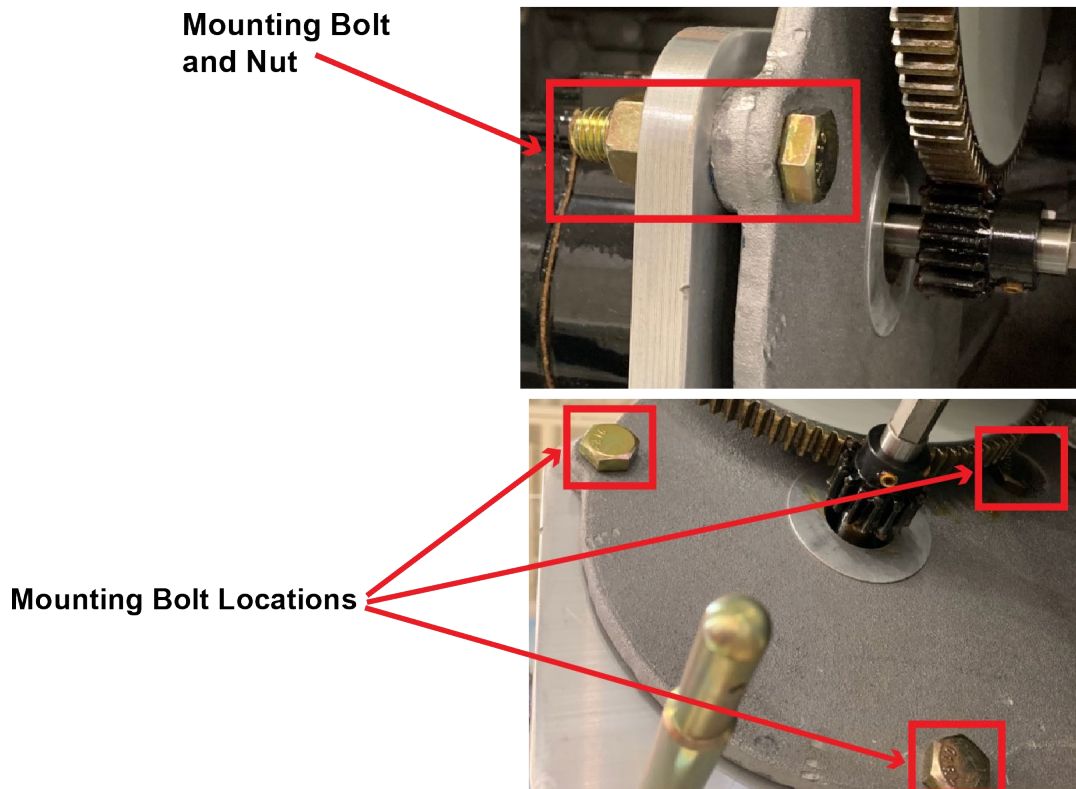

Figure 5 Mounting Bolts
5. Remove the three mounting bolts and slide the motor/brake assembly out of the gate mech (Figure 5)